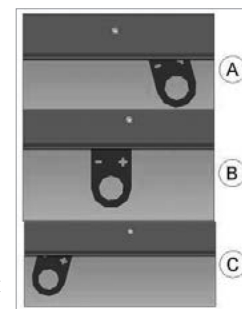

Fig.11
Combustion air regulation is carried out infinitely variably by adjusting the control lever that is located underneath the door (see Fig. 11). Adjusting the setting is carried out with the firebox door closed!
12. Depending on the weather conditions, adjust the control lever towards the middle setting or a little over (Fig. 11). The correct setting is always based on experience and the current local conditions.